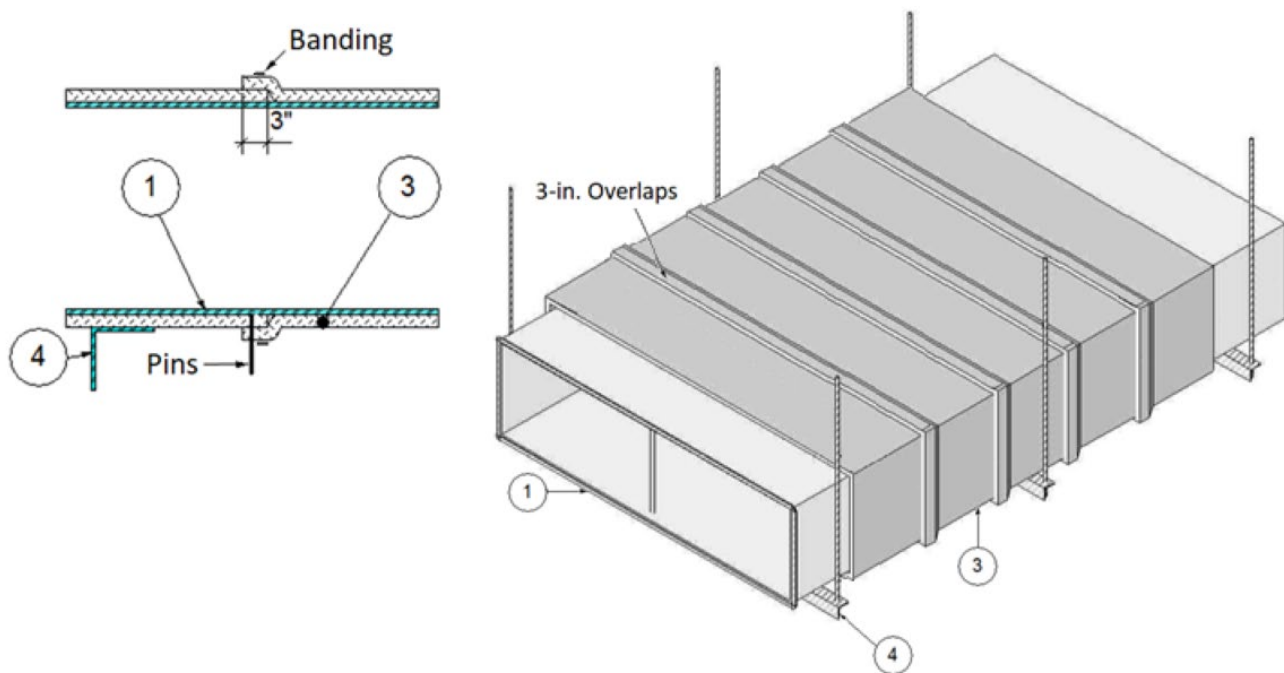

Figure 1. Horizontal Duct A
- A. **PINS:** Refer to Figure 1. Install pins on bottom side only for horizontal ducts or one of the wider sides only for vertical ducts. For round ducts, this represents the bottom 120° for horizontal ducts or any 120° section for vertical ducts. Use minimum 12 GA steel impaling pins to secure the duct insulation (Item 3). Select pin length as required to penetrate all layers of duct insulation (Item 3) and penetration firestop insulation collars (Item 7D) by a minimum of 1 in. without compression. Weld the pins to the ventilation air duct (Item 1). Space pins longitudinally at maximum 21 in. oc. and centered on duct insulation (Item 3) overlaps and 1-1/2-in. from collar edges. Locate pins transversely maximum 12 in. oc with a row of pins centered on each duct insulation (Item 3) overlap. Secure insulation on pins with 2-1/2- × 2-1/2-in. × 0.016-in, galvanized steel clip washers. Pins not required for duct sizes less than or equal to 24-in. × 24-in., or less than or equal to 24-in. diameter.
- B. **BANDING:** Refer to Figure 1. Use minimum 1/2-in. wide by 0.015-in. thick carbon steel or stainless-steel banding and minimum 1-in. long crimp clips of same material. Locate and install the bands at the center of each duct insulation (Item 3) transverse overlap. Tighten the bands securely at all locations.